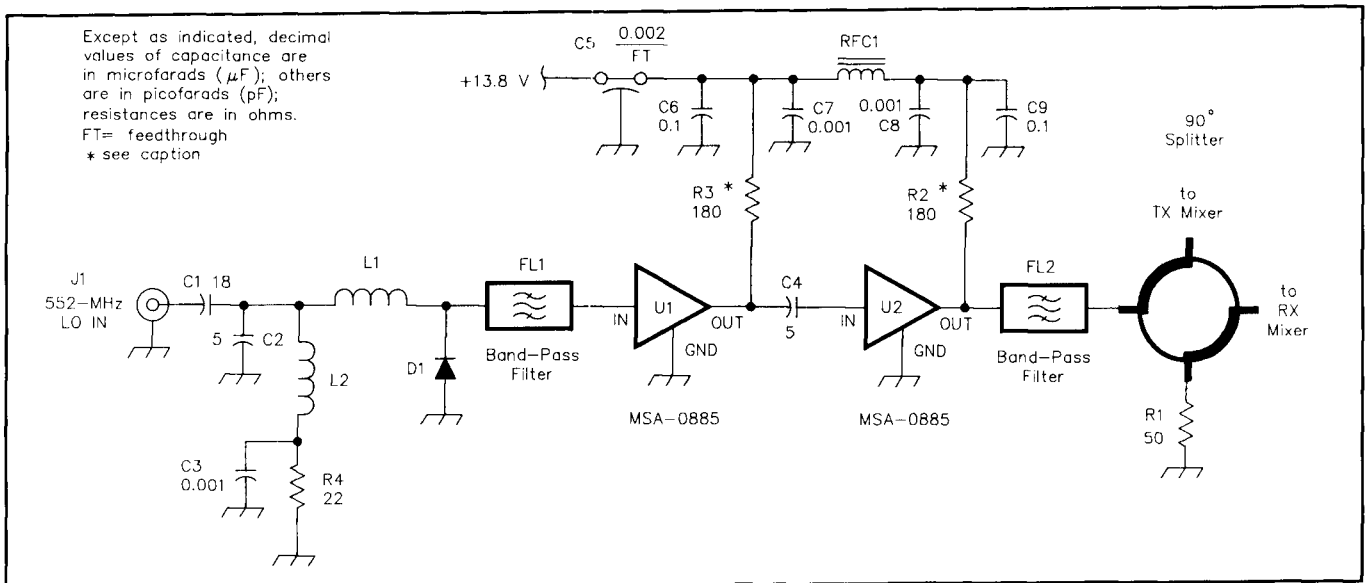

Fig 2—Schematic of the 3456-MHz transverter LO multiplier/amplifier.
**Fig 2—Part-placement guide for the 2304-MHz transverter (not shown actual size). All components mount on the etched side of the board. Feedthrough grounds, indicated by circles, *must* be installed and soldered top and bottom. Follow MMIC manufacturer's lead coding.**
Fig 2 is a part-placement drawing. Parts are available from Microwave Components of Michigan, PO Box 1697, Taylor, MI 48180; kits and assembled units are available from
The transverter requires +16 dBm (40 mW) of 552-MHz energy from an external LO. As shown in Fig 2, the first stage of the multiplier is a broadly resonant circuit that drives D1, a Schottky-diode comb generator. Following D1 is FL1, the first of two band-pass filters used to select the desired 3312-MHz output. Two stages of amplification (U1, U2) using Avantek MSA-0885 MMICs bring the level up to +11 dBm. A second filter, FL2, is used to further clean up the LO and reduce broadband noise that is generated in the amplifier stages. Following FL2, a 90° hybrid divider splits the LO signal into two equal outputs for injection into the transmit and receive mixers. The LO output level to each mixer is +6 dBm. Undesired products in the LO output are 35 dB below the carrier.